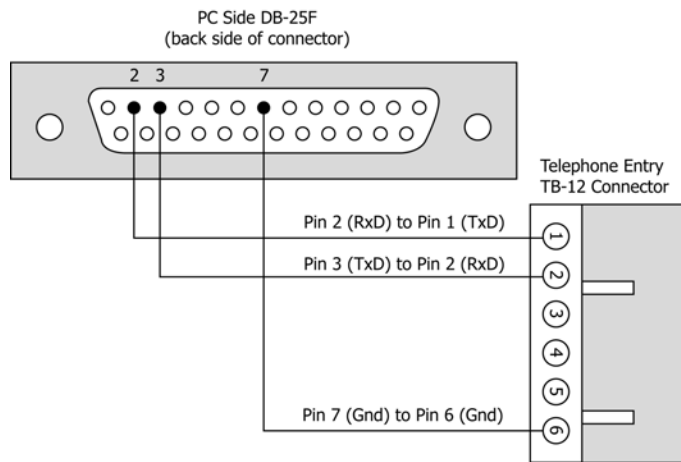

Figure 18: PC/DB-25F to Telephone Entry/TB-12 RS-232 Direct Serial Connections
- If the host computer has a male DB-25 connector on the serial port, you must use a Keri Systems KDP-251 cable or create a cable according to the drawing in Figure 18 on page 16.